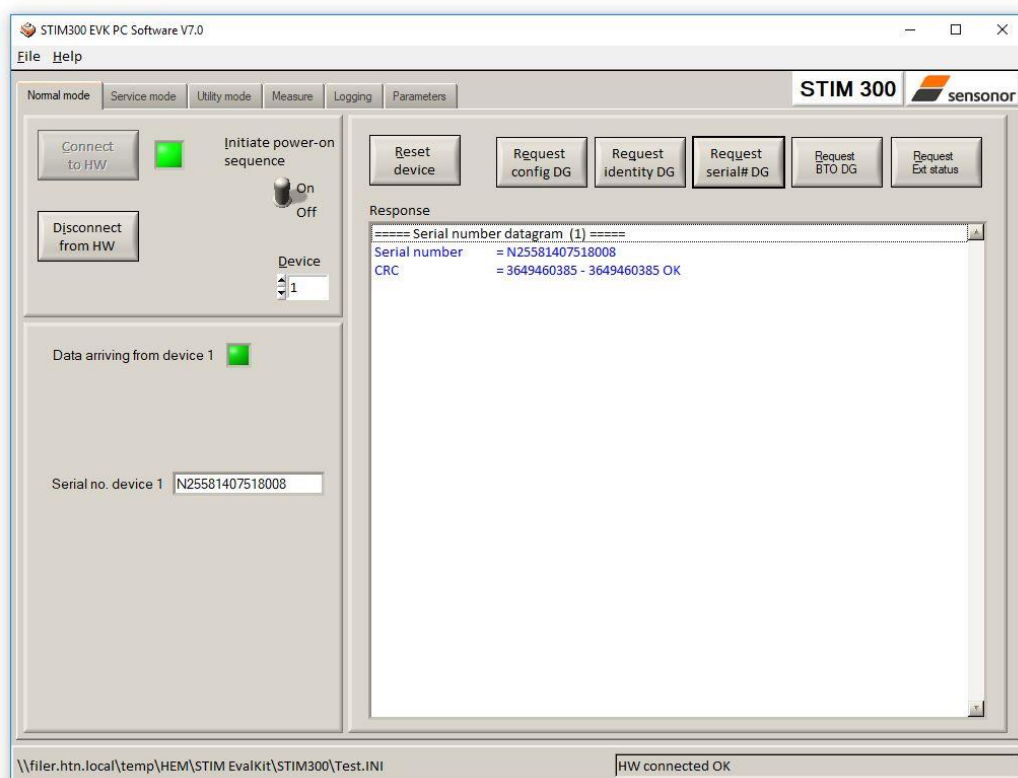

Figure 12: Result of sending 'Request serial# DG' to the IMU
9. A green LED (Data arriving from device n) indicates that data is received from the gyro module(s). Verify the communication to module by clicking on the 'Request serial# DG' button. An example of such a result is shown in Figure 12. The system is now ready for use.